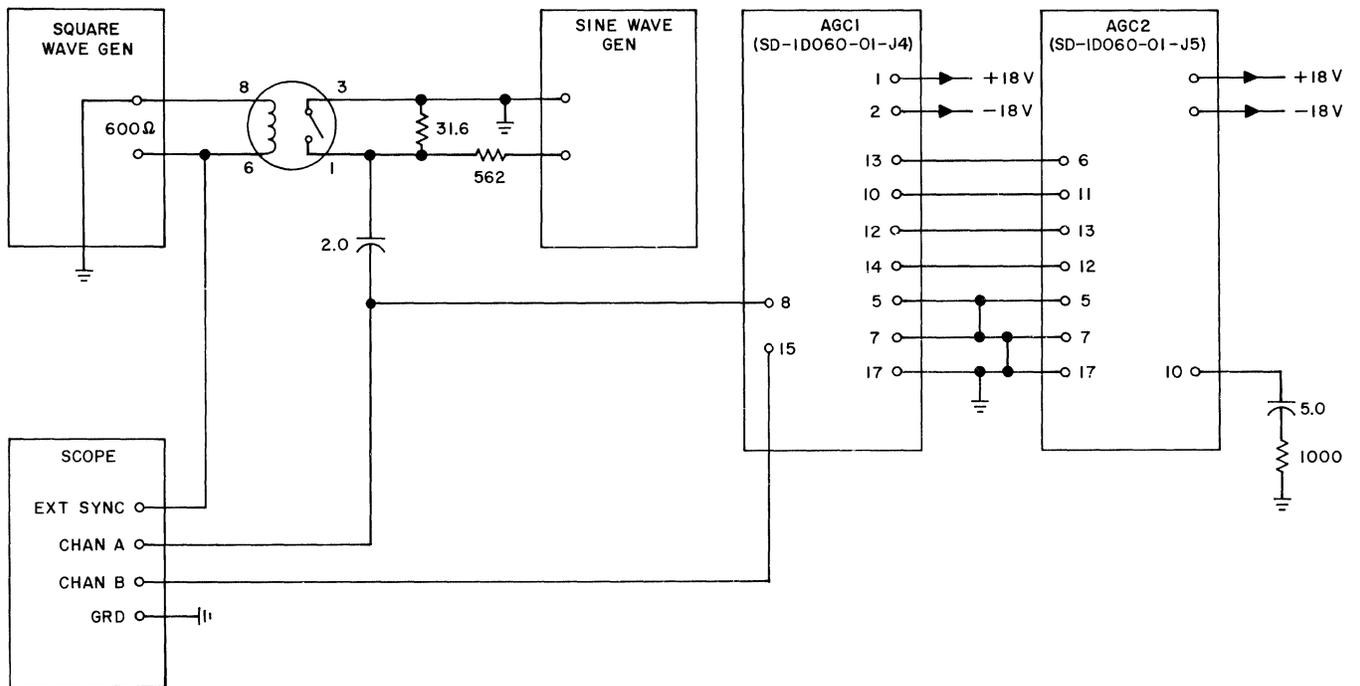
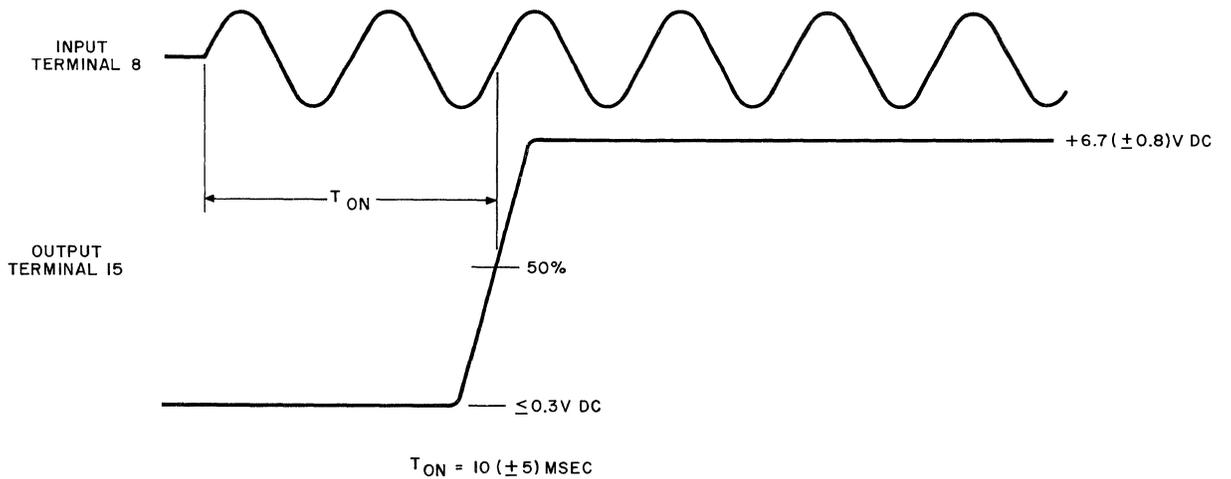

Fig. 18 — Automatic Gain Control 1 Test
Fig. 19 — Automatic Gain Control 1 Test
(1) The carrier detector response test of the AGC1 card is made in conjunction with the AGC2 card. Connect the cards as in the suggested test circuit shown in Fig. 18. Apply power to both cards as in 10.20 (a).
(2) Set the frequency of the square-wave generator to approximately  $1$  cps. Set the symmetry control to its center position and the  $600$ -ohm output amplitude control to  $0$ .
(3) Set the frequency of the sine-wave generator to  $1800$  cps ( $\pm 5$  percent). Adjust the generator amplitude control until the input level at terminal 8 of the AGC1 card is  $2$  db higher than the level recorded in 10.21 (3). Set the  $600$ -ohm output amplitude control of the square-wave generator to its center position.
(4) Set the scope EXT SYNC TRIGGER selector to the positive (+) position. The input waveform on terminal 8 of the AGC1 card and the output waveform on terminal 15 of the AGC1 card shall be as specified in Fig. 19.